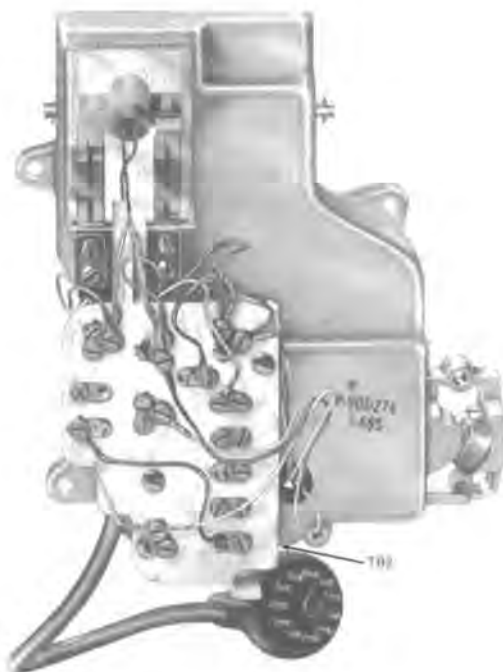

Fig. 30—P-90D274 Rotary or P-90D275 (TOUCH-TONE) Dial and Housing Assembly
- P-90D274 (rotary or P-90D275 (TOUCH-TONE) dial and housing assembly (Fig. 30)